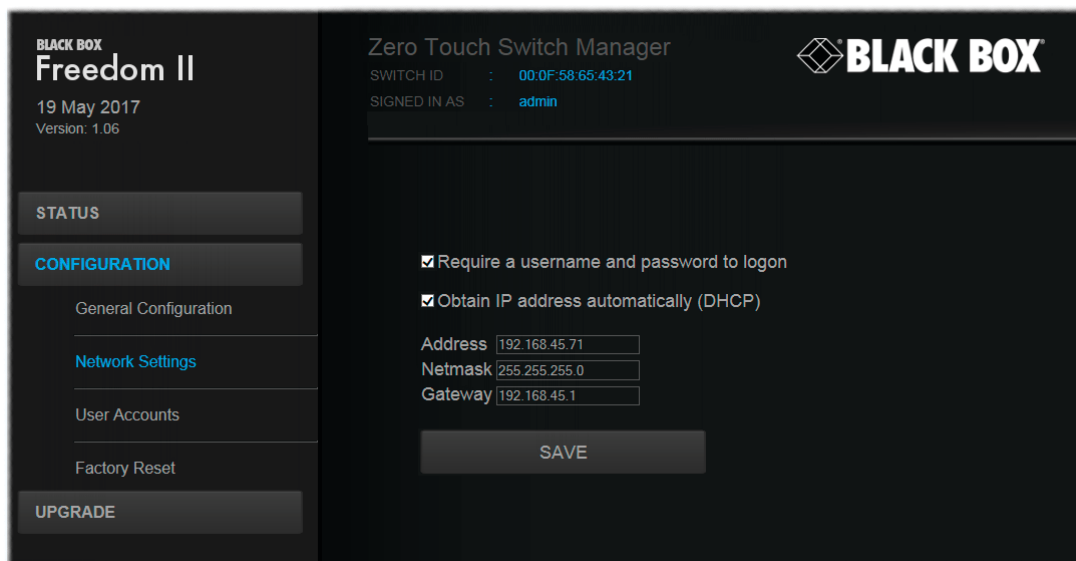

Figure 4-4. The Network settings page
- 3 On the left side, click the **Network settings** option. See Figure 4-4.